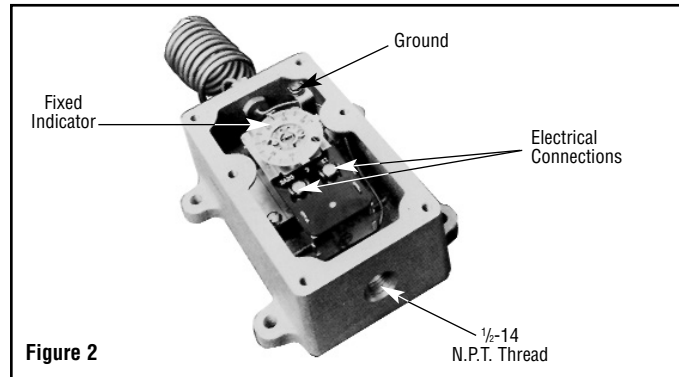

Figure 2
3. Entrance for wiring is provided by one  $\frac{1}{2}$ -14 NPT hole in the bottom of the housing. Wiring to control housing must be in rigid conduit also in accordance with National Electrical Codes (NEC) for hazardous locations. (See Figure 2)
1. Set the internal dial and the external dial to the same setting so that the hole in the dial lines up with pin on the arm that is operated by the knob. (See Figure 2)
5. Loosen two dial screws (Figure 2). Carefully turn the dial only to correct temperature setting as indicated by thermometer. Be sure the thermostat shaft is not moved during this operation.